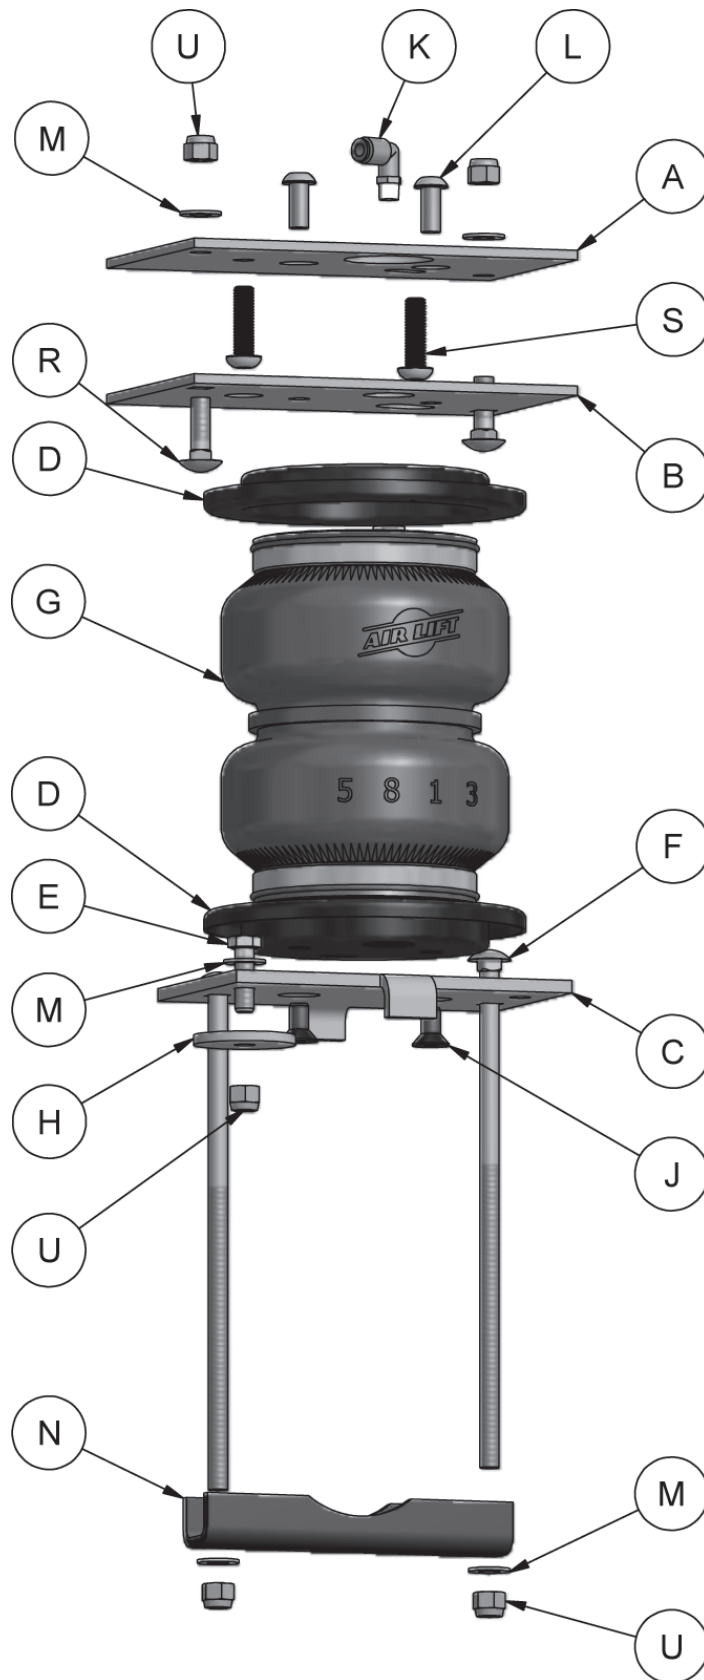

fig. 1
4. Insert the 3/8" carriage bolt (R) through the upper air spring bracket (B) in the hole at the back side only (Figs. 1 & 10).
1. Set both brackets onto the air springs and attach using the 3/8" button head screws (L). Torque no more than 20 ftlbs.
2. Install the thick 3/8" flat washer (H) onto the lower bracket (C) with 3/8" hex head bolt (E), 3/8" flat washer (M) and 3/8" nyloc nut (U) as shown (Figs. 1 & 11). Tighten securely.
3. Insert the long 3/8" carriage bolts (F) into the square holes in the lower bracket opposite side of the flanges (Figs. 1 & 11).